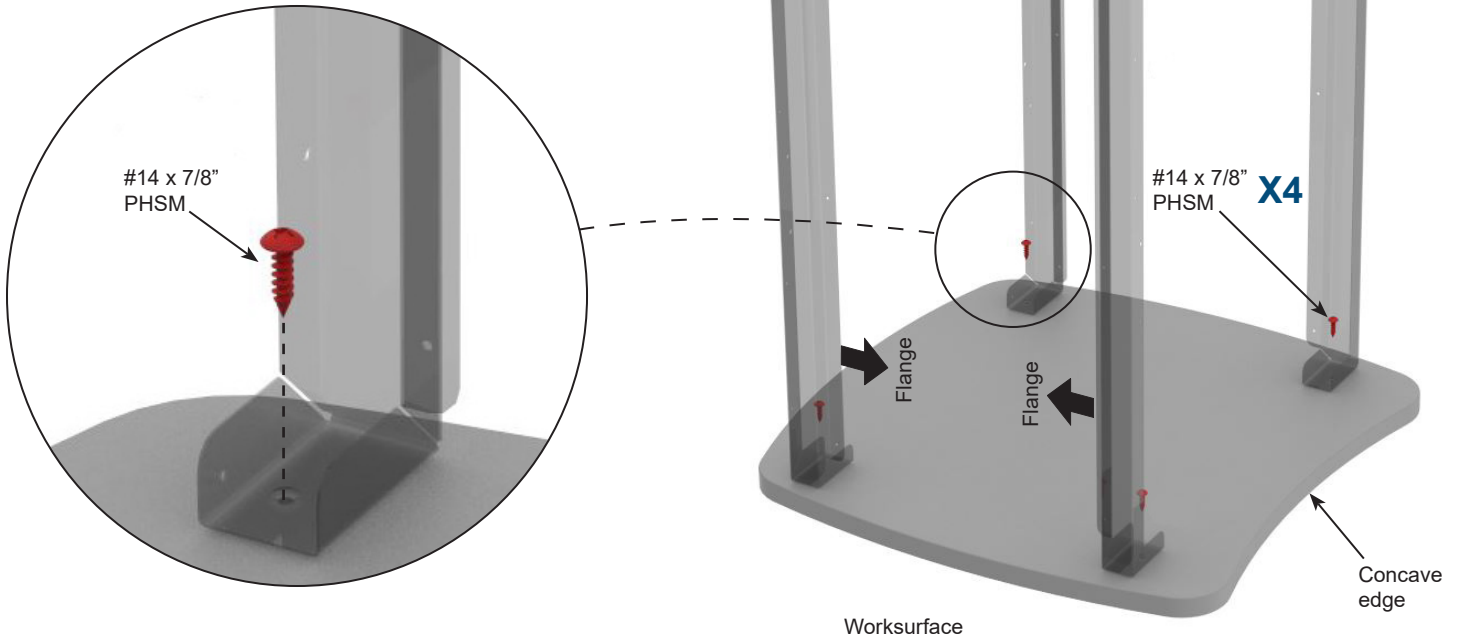

Figure 1
2. Orient and attach each frame to the worksurface as shown with (2) #14 x 7/8" PHSM screws. Note the flanges face inward. **Figure 1.**